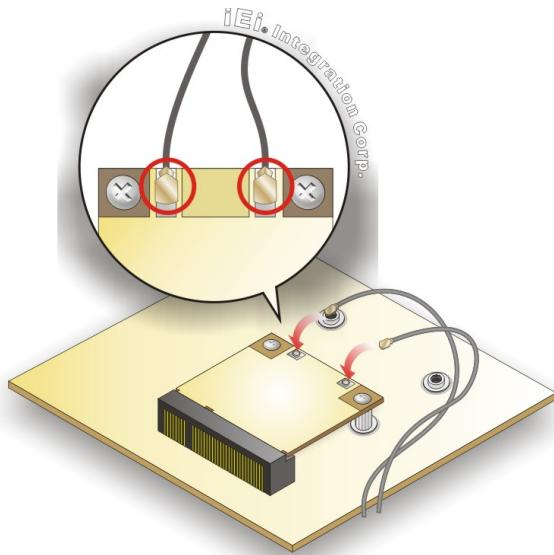

Figure 3-19: Connecting RF Cables
Step 6: Connect the two RF cables to the antenna connectors on the WLAN module (**Figure 3-19**).